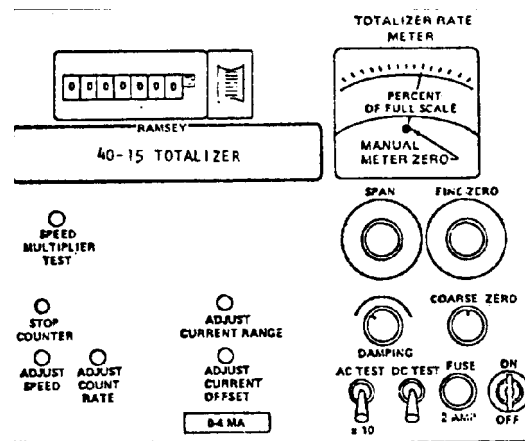

Figure 2
7. Place the AC test switch in the x10 position, as shown in Figure 2. This multiplies the count rate on the totalizer tonnes counter by 10 so that an accurate zero can be obtained.